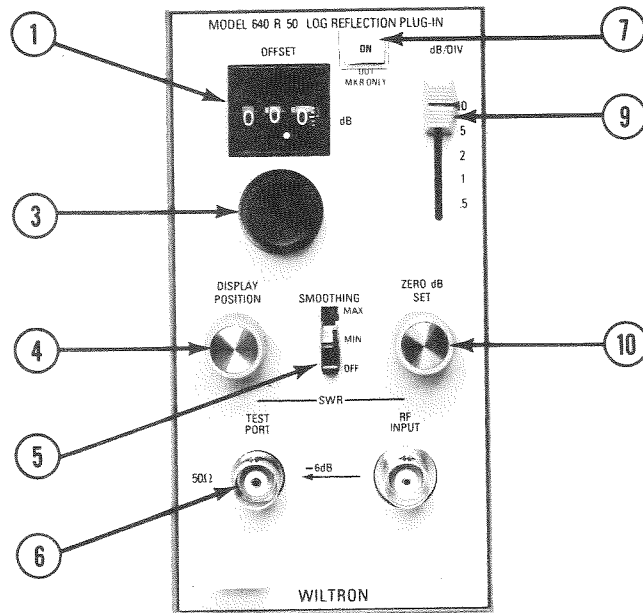

Figure 2-4. Log Reflection Plug-In, Model 640R
2-2.5 Log Reflection Plug-In, Model 640R (See Fig. 2-4)
The controls and indicators and their functions are identical to those listed for Models 640T and 640E with the following exceptions: the maximum sensitivity (dB/DIV) is 0.5 dB, controls ② and ③ have been omitted, and an output port (see Figure 2-4) has been added.
⑥ SWR - The TEST PORT connector connects to the device under test. The RF INPUT is connected to the RF Output from the Model 640G Sweep Generator. A semi-rigid cable is supplied for this latter connection. For purposes of identification, the 50-ohm cable and the 75-ohm cable are both clearly labeled. There is a 6 dB difference in the signal level between the RF INPUT and the TEST PORT because of the loss across an internal SWR autotester (SWR bridge).